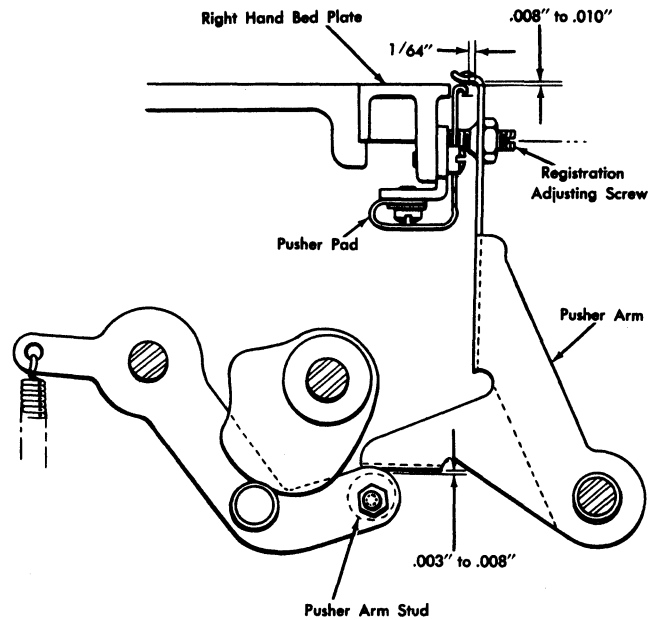

Figure 26. Detail Card Registration
ADJUSTMENT (FIGURE 26)
1. Adjust pusher pad vertically for .008-inch to .010-inch clearance from top of pad to pusher arm in the registered position (against its adjusting screw). Maintain $\frac{1}{4}$ -inch clearance from side of pad to the arm. At same time, check for at least .008-inch clearance between top of right bed plate and pusher arm (in position shown in Figure 26). If there is not .008-inch clearance, bed plate may be warped.